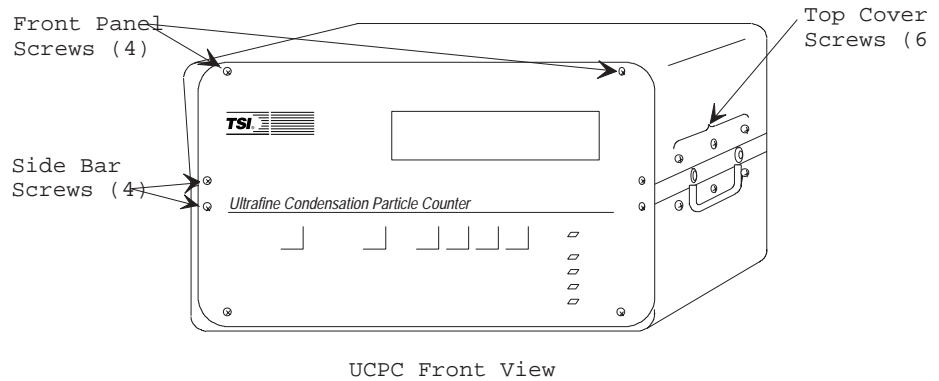

Figure 8-3
Refer to Figures 8-3 and 8-4 and the following instructions to install an EPROM in a Model 3025A UCPC.
- 3.** Using Figure 8-3 as a reference, remove the following screws on the UCPC. Separate the screws as you remove them so you can reassemble the UCPC correctly.
8. Using Figure 8-3 as a reference, reassemble the UCPC: